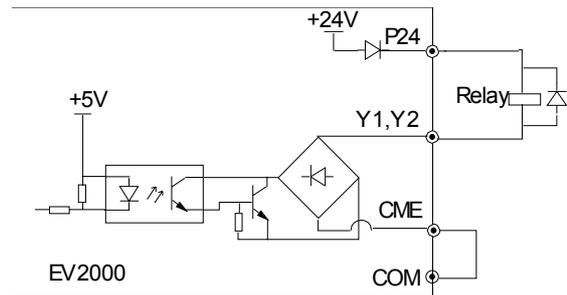

Fig. 3-28 Wire connections 1 of multi-function output terminal
① Multi-function output terminals Y1 and Y2 can use the 24V power supply inside the drive and the wiring mode is shown in Figure 3-28..
5. The resistors R in Fig. 3-27 and Fig.3-28 should be removed for 24V input relays, and the resistance of R should be selected according to the parameters of relay for non-24V relay.